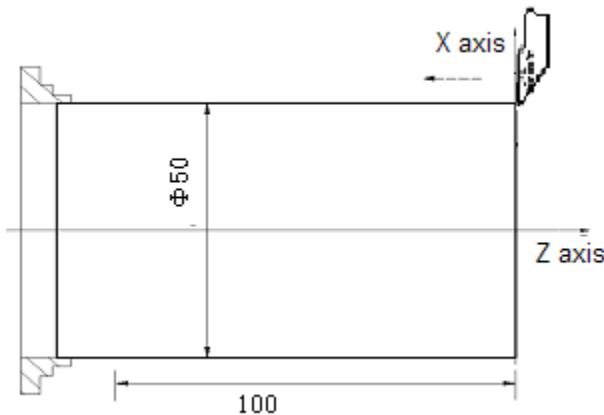

Fig.10-3
(3) When Z axis remains still, the tool is released along X axis, the spindle is stopped revolving, and the system switches into the tool offset page, and the cursor is moved toward #001 offset, the software key is pressed to enter the measuring input page, Z0 is input on the input page , and software key is pressed, the tool offset value of Z axis is input.
- (4) The tool is moved and the tool is cut along the workpiece excircle, which is shown as Fig. 10-3;